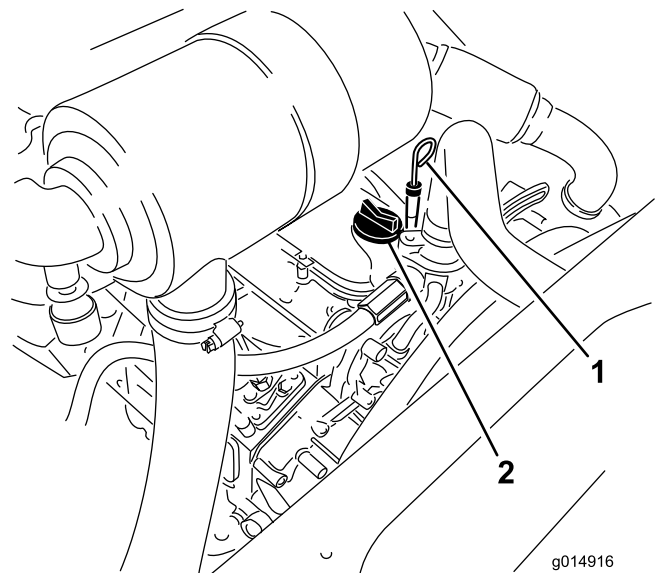

Figure 44
3. Remove the dipstick, wipe it clean, and install it (Figure 44).
- If the oil level is below the Full mark, remove the fill cap (Figure 44) and add oil until level reaches the Full mark on dipstick.